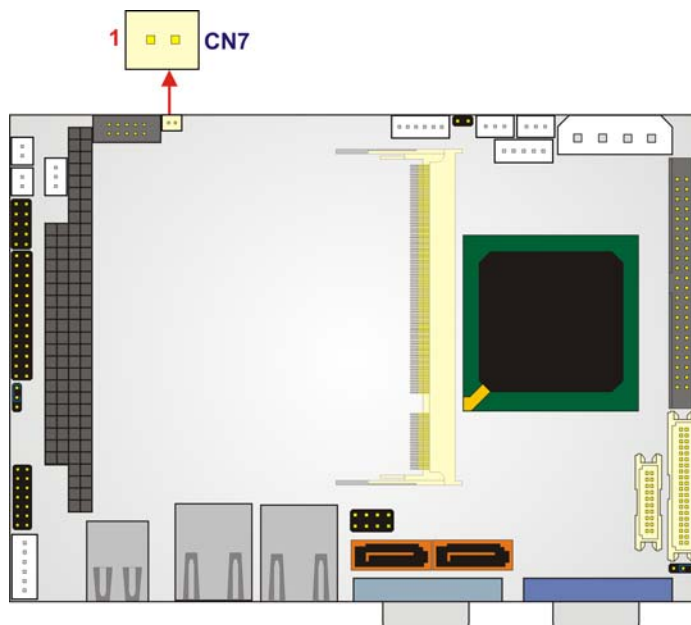

Figure 3-7: Battery Connector Location
- CN Location:** See **Figure 3-7**